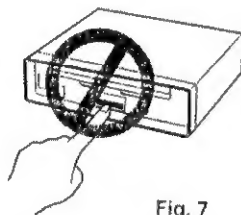
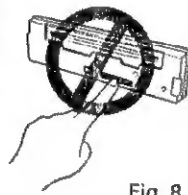

Fig. 7
Fig. 8
- Do not touch the contacts on the front panel or on the unit body, since this may result in poor electrical contact. If dirt or other foreign substances get on the contacts, wipe them with a clean, dry cloth. (Fig. 7) (Fig. 8)